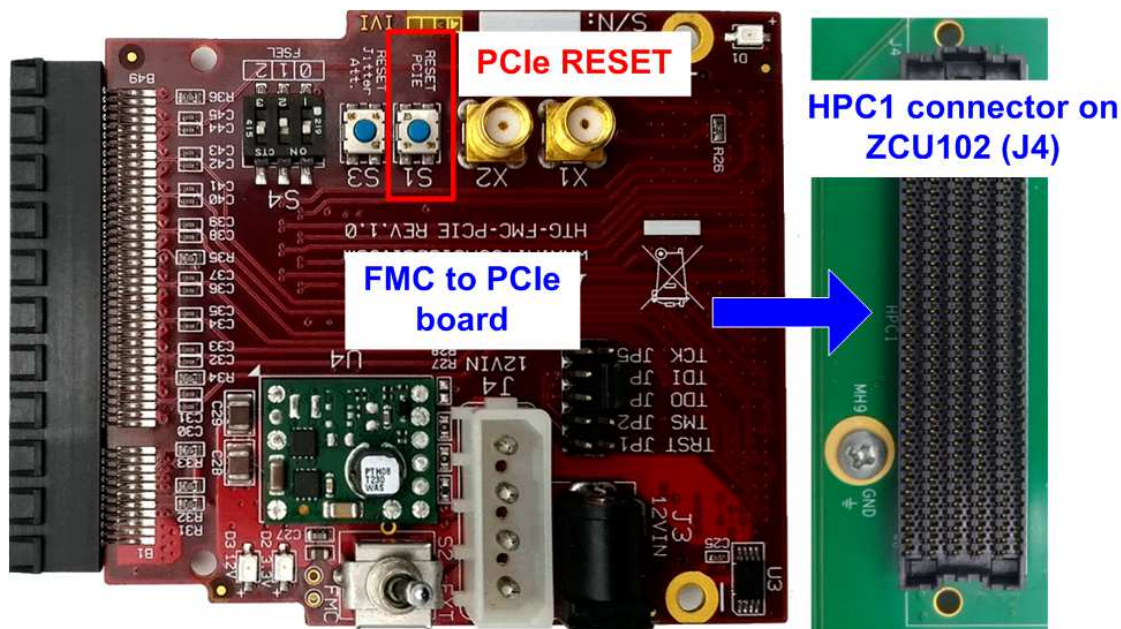

Figure 2-1 Connect FMC to PCIe board to FPGA board
- 2) Connect FMC-to-PCIe card to HPC1 connector (J4) on ZCU102, as shown in Figure 2-1.